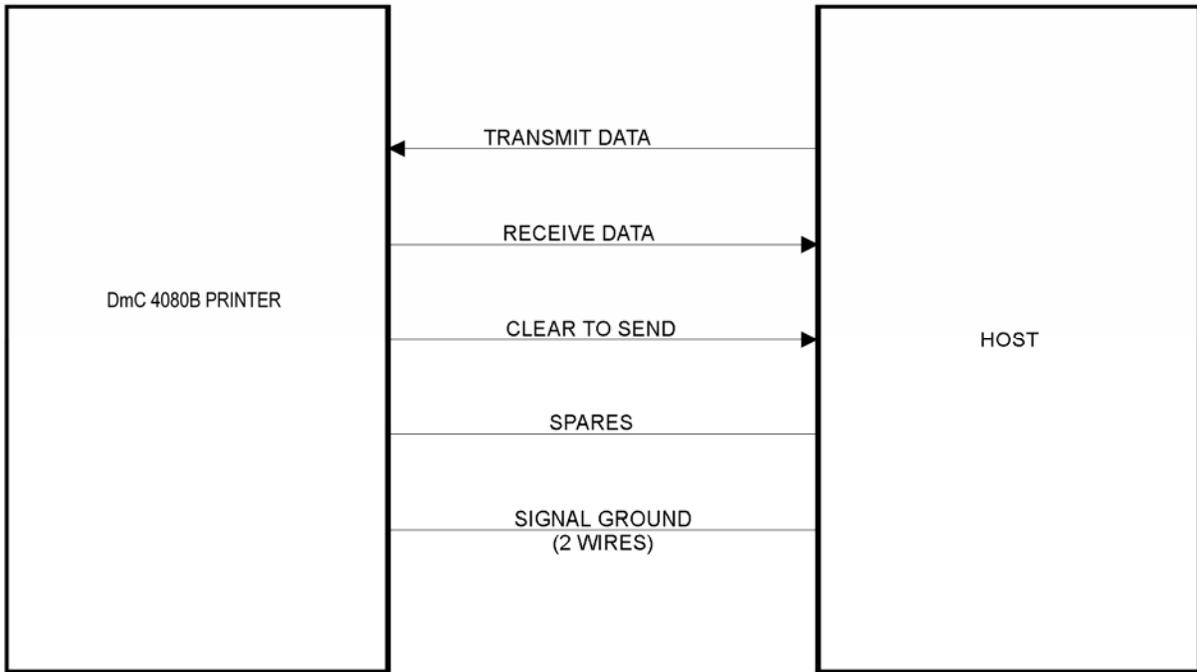

Figure 7-2. RS-232C Interface Diagram
7.3.1.1. Signal Type. Data or control signals, unbalanced, provide serial data transfer between printer and host. Each interface signal is transferred over a single-ended one conductor connection to the host (Figure 7-2).